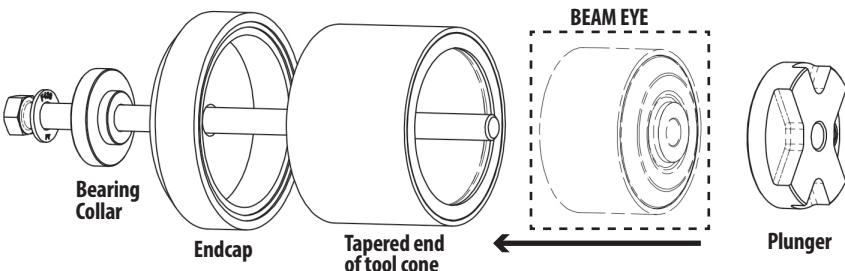

Figure 1.
Thread the flat washer, bearing collar and endcap onto the HHCS until the bearing collar and endcap rest against the washer on the HHCS head. Place the open end of the bushing tool cone onto the endcap (Fig 1).
1. Push the HHCS through the installed bushing's inner sleeve until the tool cone tapered end is against the beam eye. Thread the plunger onto the HHCS until the bushing tool is held firmly against the beam (Fig 1).